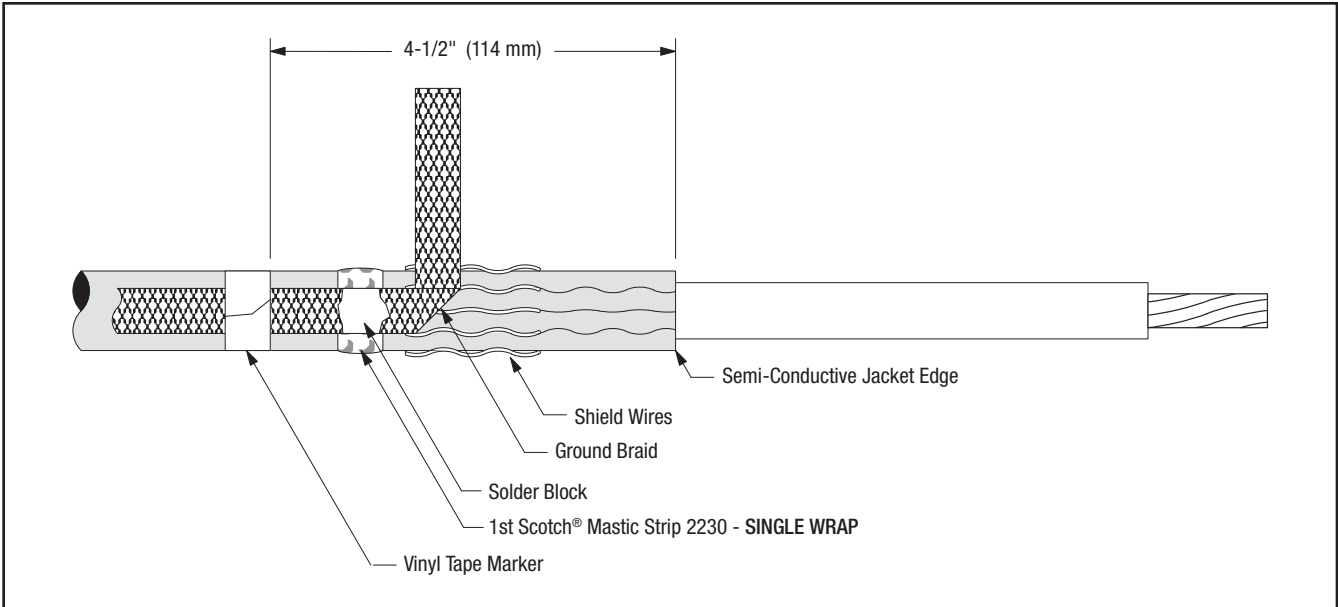

Figure 22
13.2 Position pre-formed ground braid with short tail directly over cut edge of folded back shield wires. PLEASE NOTE: The ground braid needs to make full contact with the shield wires. Position long tail of ground braid, extending over cable semi-conductive jacket with solder block over mastic strip (Figure 22). Secure ground braid to cable semi-conductive jacket **4 1/2" (114 mm)** from cable **Semi-Conductive Jacket** edge using vinyl tape (See NOTE and Figure 22).